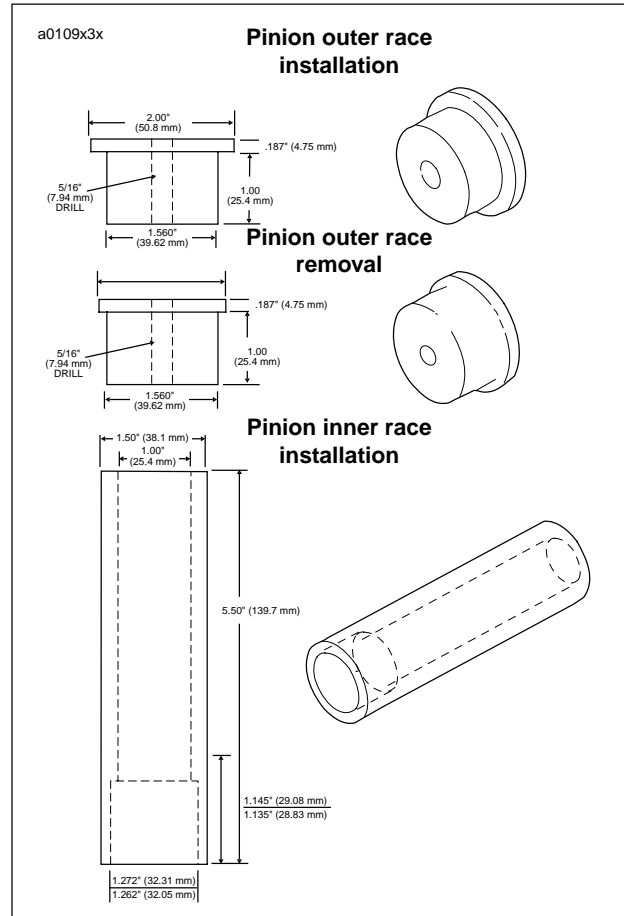

Figure 3-119. Pinion Shaft Bearing Tools
See **Figure 3-119**. Dimensions are shown for fabrication of tools used in pressing the outer race into or out of crankcase.
8. Press **new** inner race on pinion shaft as shown. The **new** inner race must be ground by a competent machinist to OD dimension range for the finished lapped ID of the outer race. Refer to Table 3-35. The finished inner race must meet these specifications. For necessary dimensions for constructing a press-on tool see Figure 3-119. When the tool bottoms against the flywheel, correct inner race location is automatically established.